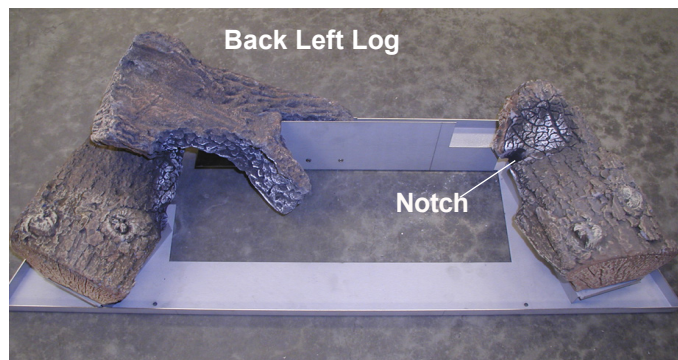
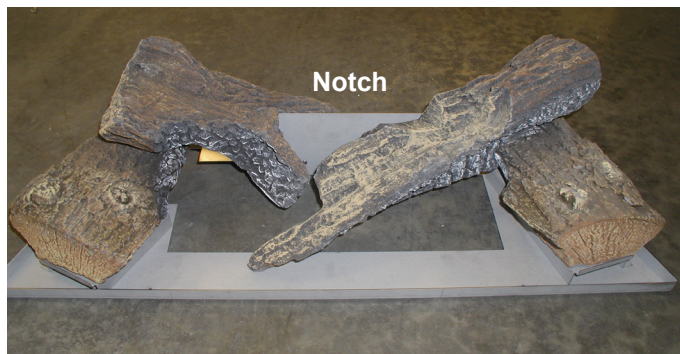

Figure 34b. Back Left log placement.
Figure 34c. *Top right log placement.*
3. Arrange the ember chips on top of the burner tray. Care should be taken when placing the ember chips, as blocked burner ports may cause an incorrect flame pattern, carbon deposits and delayed ignition. Also, the chips must never be placed in a way that obstructs any of the air inlet ports, located at the rear of the burner, as shown in *figure 34b*.
Step 3. Place the back left log on top of the bottom left log, while resting the right side of the log on the mounting tray. As shown in *figure 34b*.
Step 4. Place the top right log as shown below in *figure 34c*. Align the tab on the underside of the log, far right end, with the provided notch in the bottom right log, *Figure 34b*.
Step 5. Rest the top log in the provided notch on top of the Top right log, *figure 34c*.